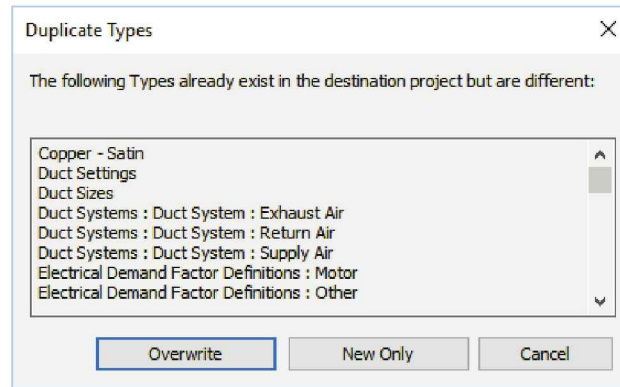

FIGURE 13-2.2
10. Scroll down to see all the “duplicate types” so you have an idea what overlap there is; click **OK/Override** (see Figure 13-2.2).